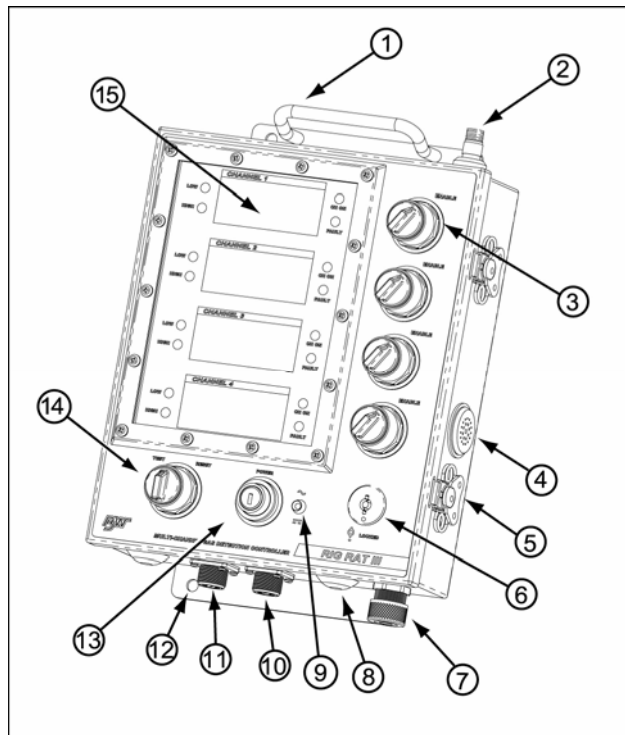

Figure 1. The Rig Rat III Controller
- Figure 1 and Table 2 describe the controller's main external components.